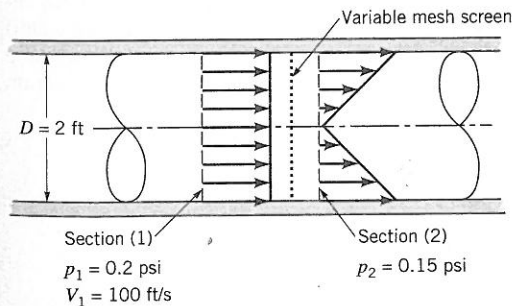

Figure P5.70
5.70 A variable mesh screen produces a linear and axisymmetric velocity profile as indicated in Fig. P5.70 in the airflow through a 2-ft-diameter circular cross-sectional duct. The static pressures upstream and downstream of the screen are 0.2 and 0.15 psi and are uniformly distributed over the flow cross-sectional area. Neglecting the force exerted by the duct wall on the flowing air, calculate the screen drag force.